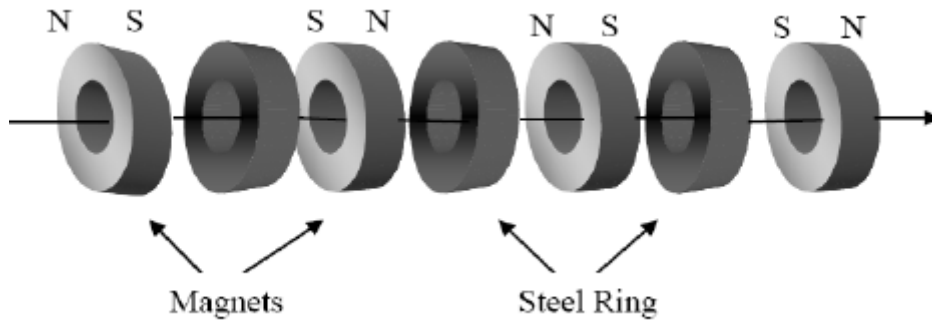
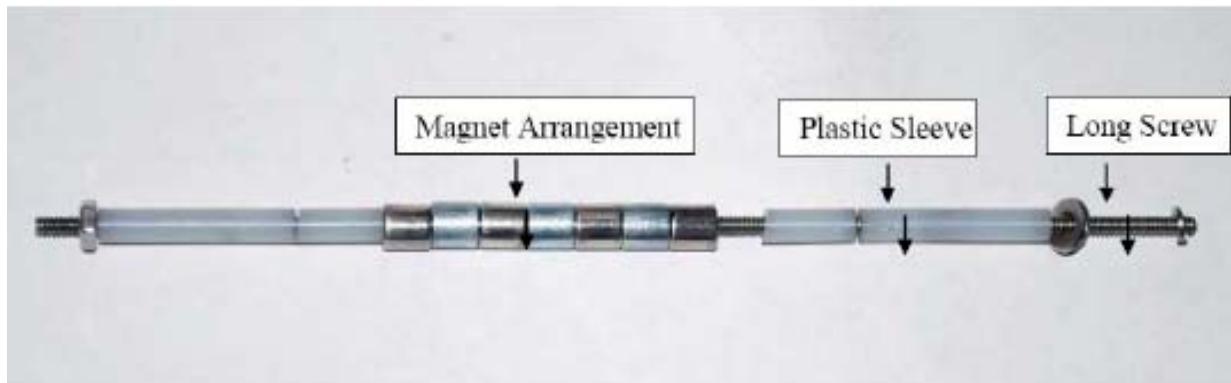

Figure 4. Magnet Arrangement
Figure 5. Magnet Arrangement on the machine
2. If you cannot find a long magnet, you can use 4 ring magnets (Figure 4 & Figure 5).